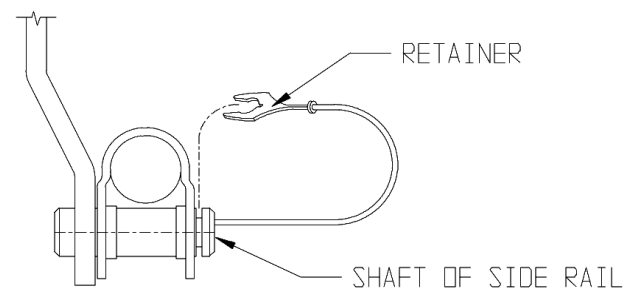

Figure 8
4. Install right or left side rail to assembled brackets noting that the proper side rail will have a latch that faces the foot end of the bed. Install the retainers on the end of the shafts of the side rail (Figure 8).